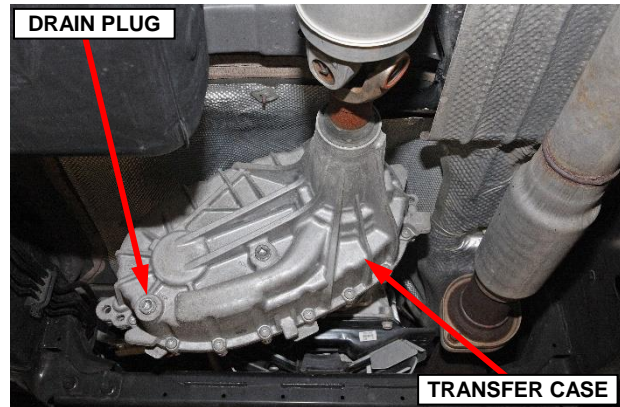

Figure 6 – Transfer Case Drain Plug
11. Place a drain pan under the transfer case then remove and **SAVE** the drain plug. Allow the transfer case to drain while removing drive shafts. Once the transfer case has finished draining, install and tighten the drain plug to 19 N·m (15 ft. lbs.). Transfer case must be drained for core return (Figure 6).